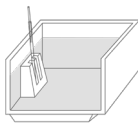

Figure 4. Transfer the OPS into the pre-cooled container straw
- 5) Without direct contact with liquid nitrogen, transfer the OPS into the pre-cooled container straw. Insert the narrow end of the OPS first. The blastocysts are now vitrified and should be kept in liquid nitrogen until you perform the warming procedure (See Figure 4).